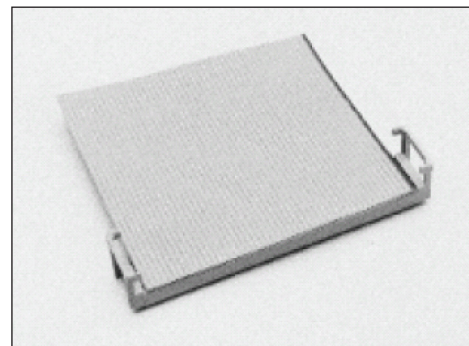

Figure 6
- Cable end is flush with the cover for end terminations or perpendicular to cover for midspan terminations. (See Figure 6)